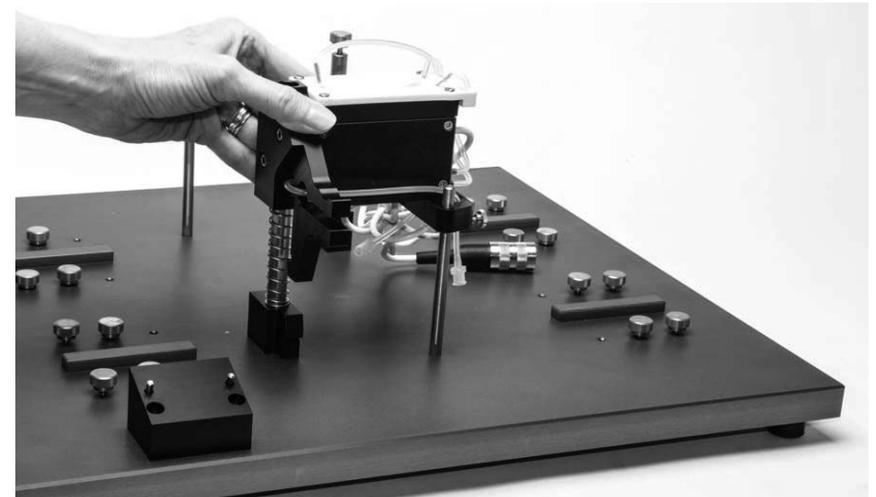

Fig. 8—Slide the cuvette over the mounting posts.
4. Remove the thumb screw on the upright cuvette mounting post. Align the cuvette with the upright mounting post and the pseudo cuvette post. Slide the cuvette over the two mounting posts and into position. (Fig. 8).